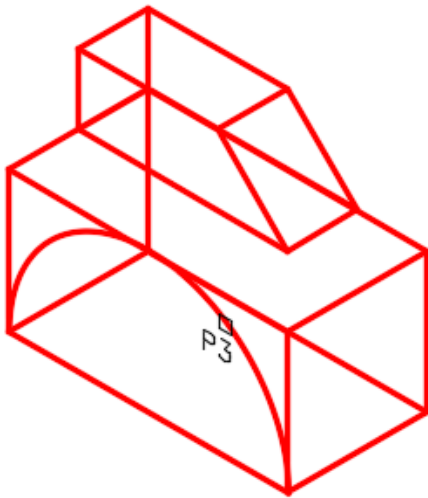

Figure Step 9A
Step 9 Using what you learned in Module 27, click the Extrude faces icon to extrude the arc 1 inch in the positive Z direction as shown in the command below. (Figure Step 9A and 9B)